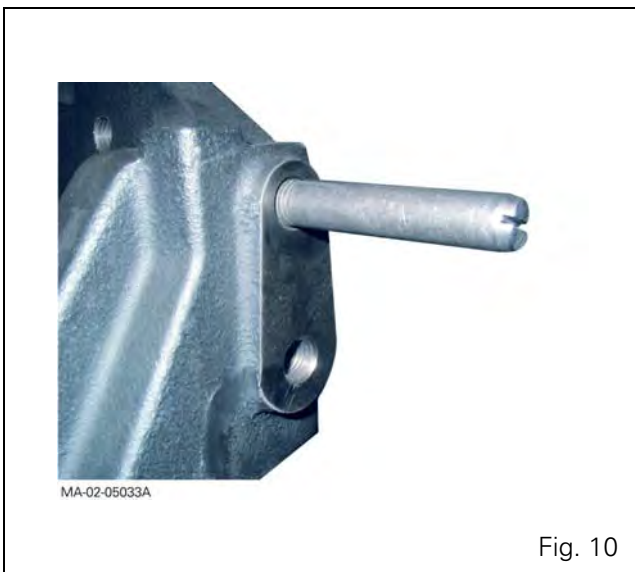
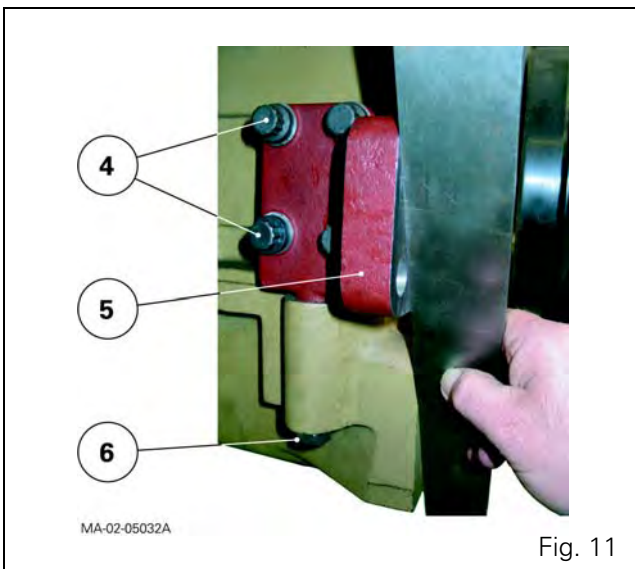

Fig. 10
Fig. 11
21. Prior to reassembly check with a ruler that the supports (5) are aligned with the front face of the engine lower housing (Fig. 11). If not:
- the screws (4) to a torque of 240 - 320 Nm (Loctite 270 or equivalent);
- the screws (6) to a torque of 240 - 320 Nm.
22. Screw a guide stud onto each rear face of the frame (Fig. 10).